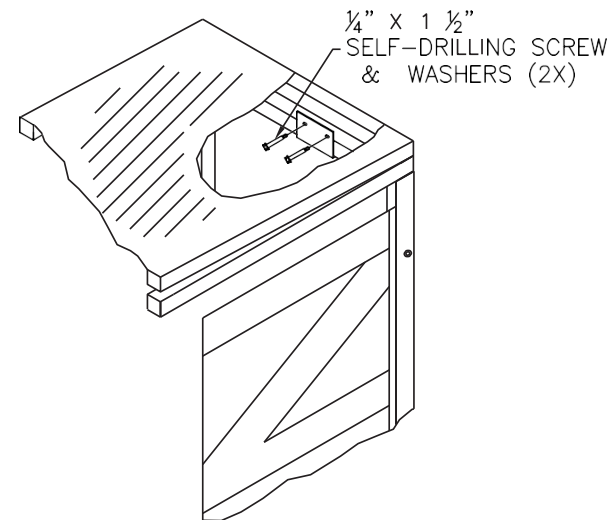

FIG 14
c. Attach Head Frame to Vertical Frames (Figure 14).